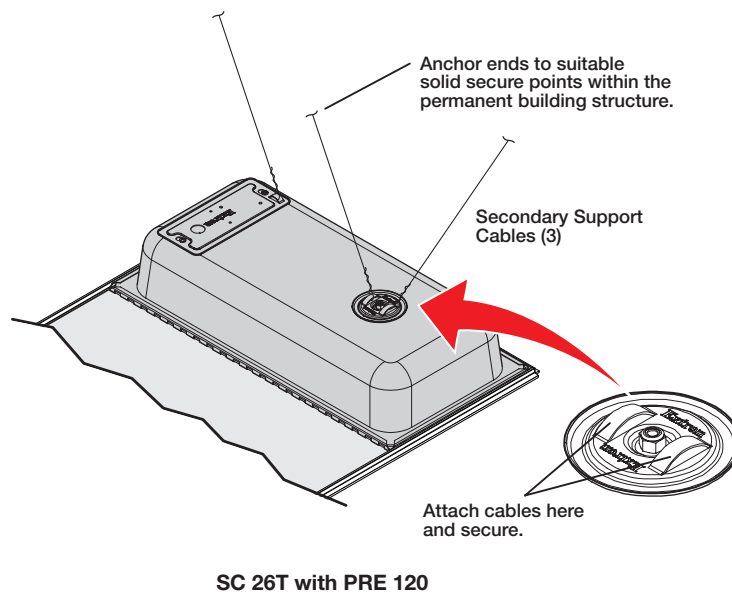

Figure 33. Attaching Secondary Support Lines
- 12. Attach secondary support lines** — Attach all secondary support lines as shown in figure 33.